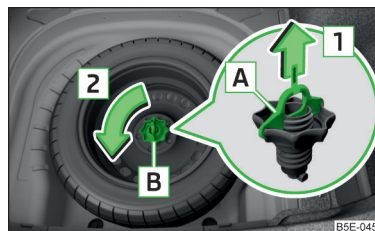

Fig. 328
The wheel is located in a well under the floor covering in the boot and is fixed in place with special bolt **B** » Fig. 328.
- › Remove locking **A** in the direction of arrow **1** » Fig. 328.
- › Screw in nut **B** in the opposite direction to arrow **2** » Fig. 328.